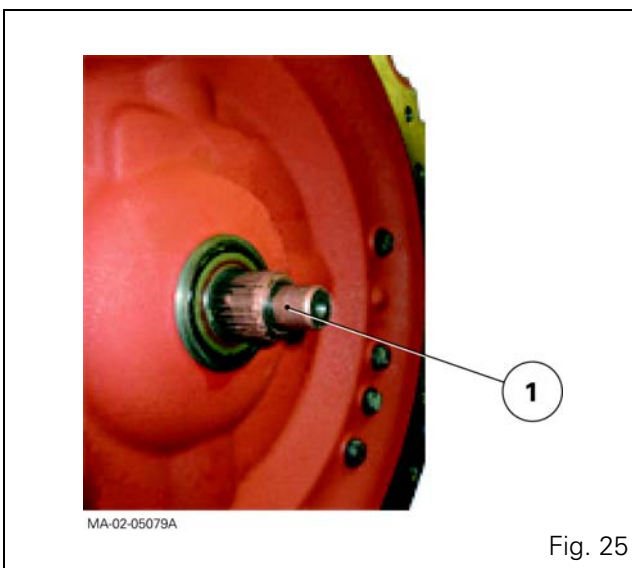

Fig. 25
54. Lightly smear the splines of main shaft (1) (Fig. 25) with AS767 grease or equivalent.